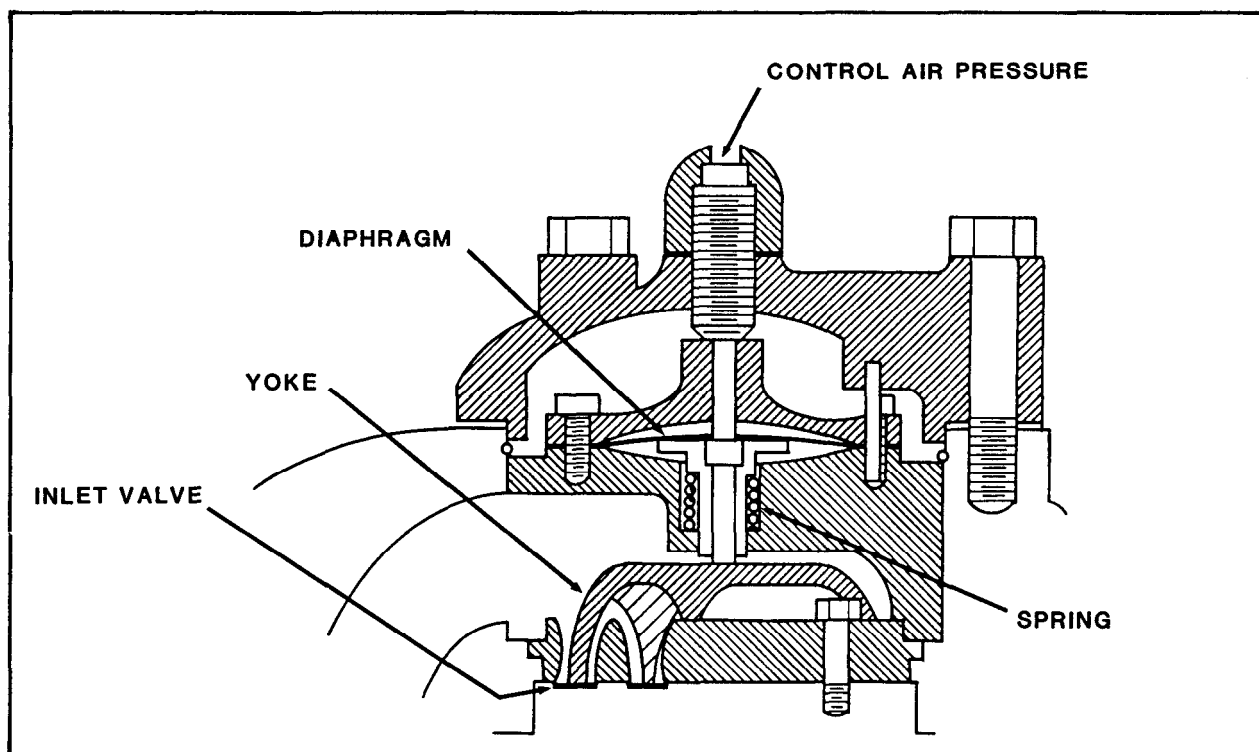

FIGURE 5-3. Inlet Valve Unloader
1.1.1.1 Inlet Valve Unloader. There are several methods of unloading the compressor. One system holds the inlet valves open mechanically during both the suction and compression strokes, thereby preventing the air from being compressed. The unloader (figure 5-3) is located above the inlet valve so that the yoke fingers are almost touching the valve. When the air receiver pressure rises to the preset unloading pressure, a pressure switch operates a solenoid unloader valve which operates and sends air receiver pressure to the inlet valve unloader. The pressure from the air receiver acting on the diaphragm of the inlet valve unloader forces the yoke fingers against the inlet valve, holding it open. The intake air is pushed back out of the inlet valve on the compression stroke so that no compression takes place.